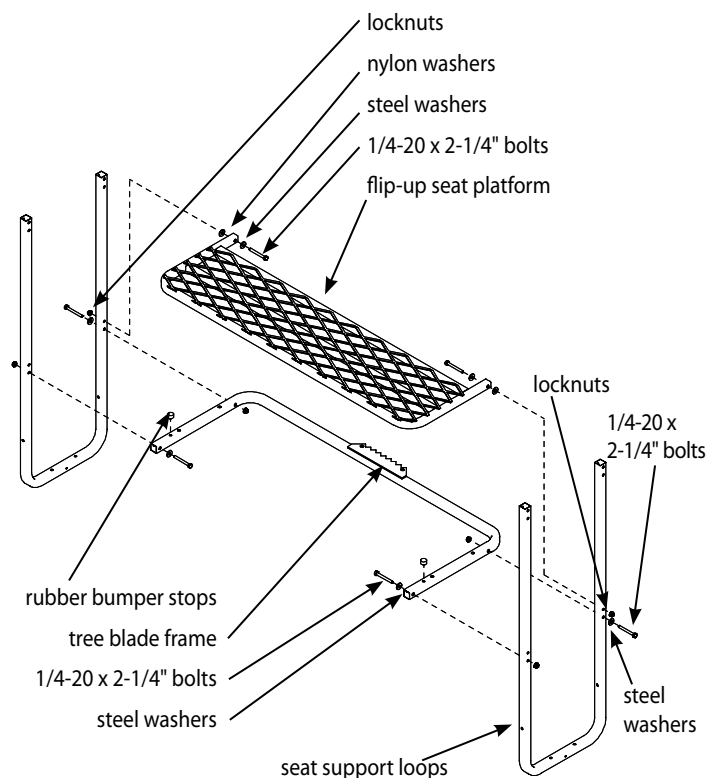

Figure 4
6. Attach the tree blade frame (2ML127) to the inside, lower set of holes of the side seat support loops using (4) provided 1/4-20 x 2-1/4" bolts, locknuts, and steel washers. **SEE FIGURE 4.** Press the (2) provided rubber bumper stops into top side holes of tree blade frame. **SEE FIGURE 4.**
7. Attach the flip-up seat platform (2ML69), with mesh surface on top, to the upper, rear holes of side seat support loops using (2) provided 1/4-20 x 2-1/4" bolts, locknuts, nylon washers and steel washers. **SEE FIGURE 4.**